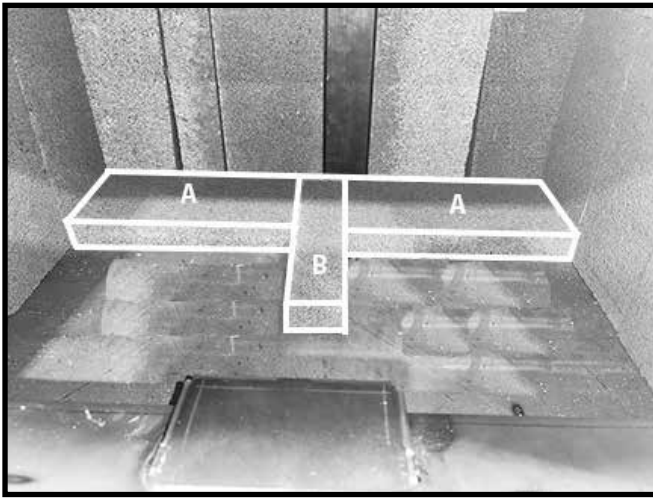

Figure 30: Back row floor A and B bricks.
6. On the firebox floor, place an "A" brick in each corner and insert one "B" brick as shown in Figure 30.